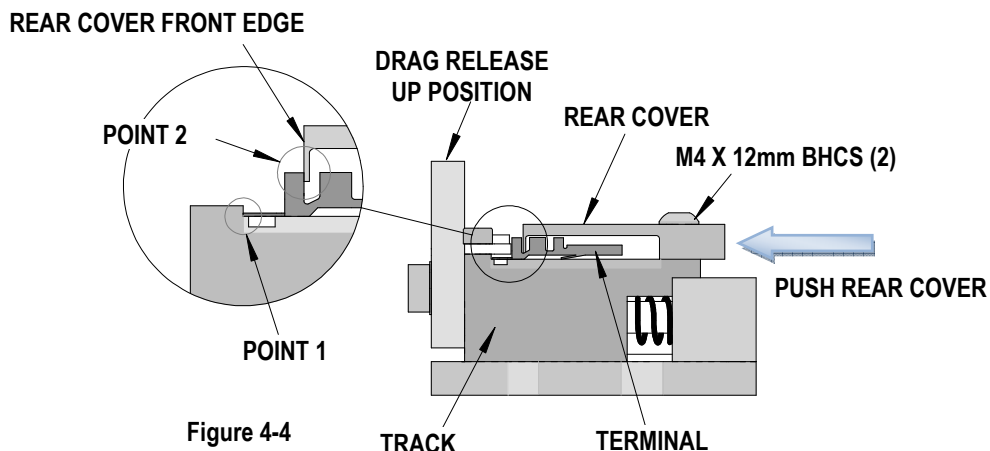

Figure 4-4
- 4. With an 8-10" long strip of terminals installed in the track, push the rear cover towards the front of the track to eliminate any excessive play between points 1 and 2. See Figure 4-4.